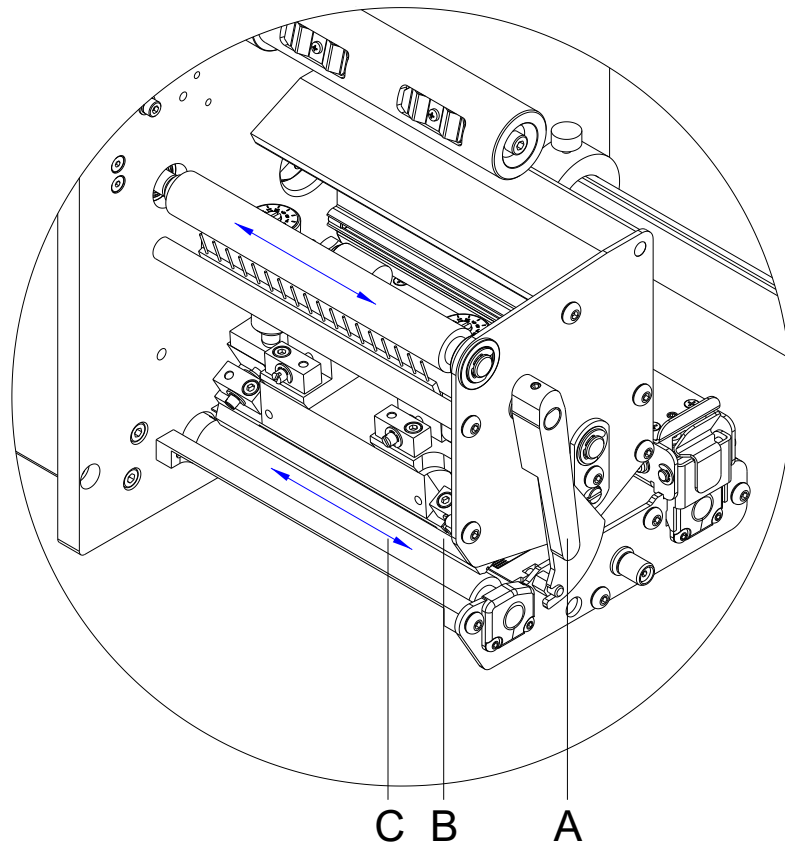

Figure 25
2. Turn the lever (A, Figure 25) counter clockwise to lift up the printhead.
7. To move the printhead down, turn the lever (A, Figure 25) in clockwise direction until it locks.